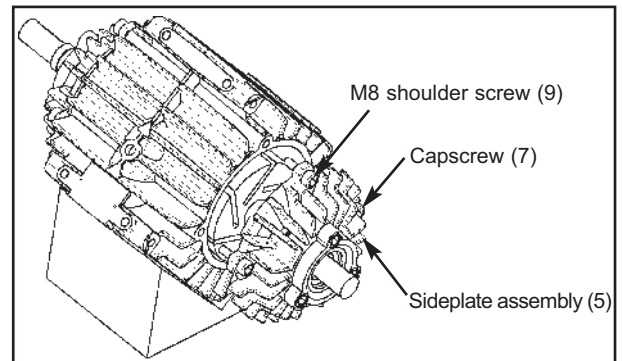

Figure 27
5. Install second sideplate assembly as instructed in step 2 above ; See figure 27.